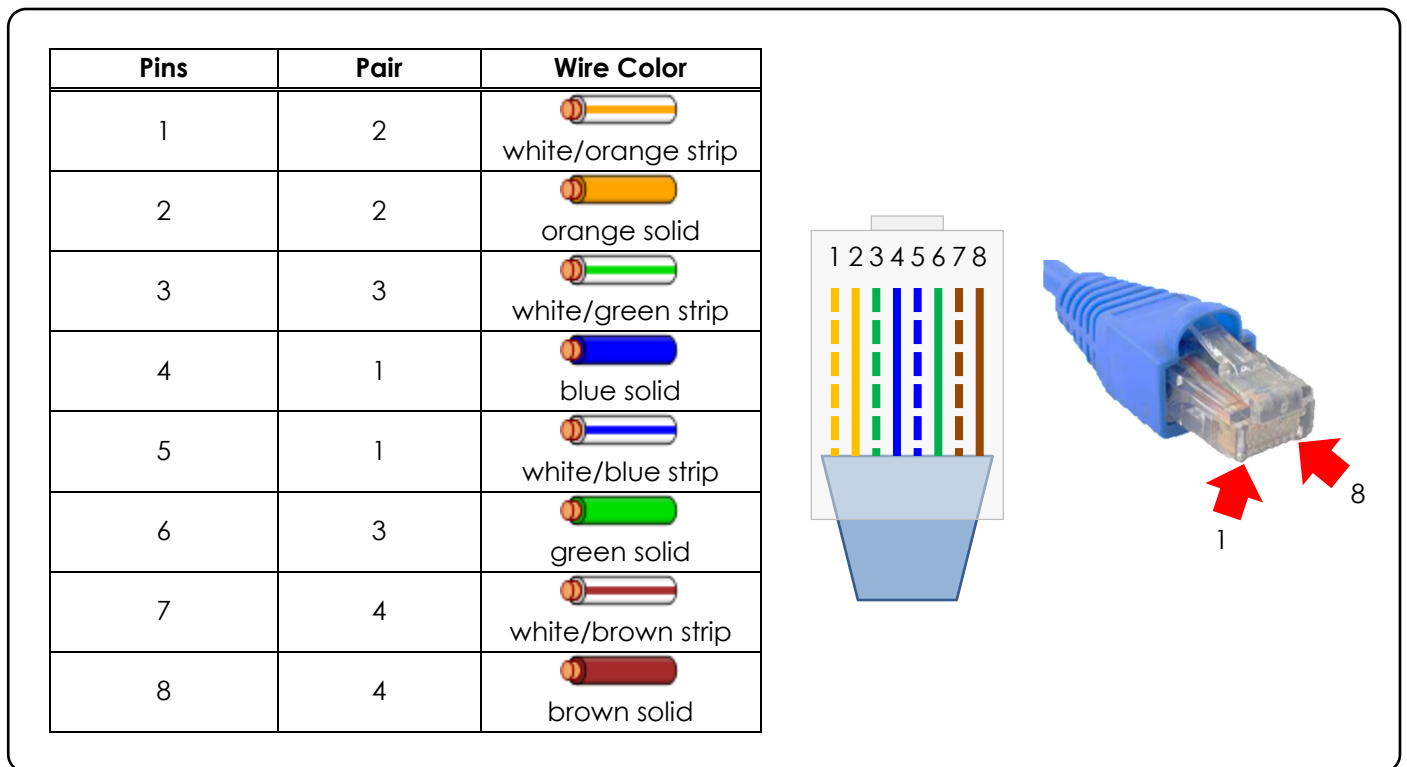

Figure 8-1 Ethernet RJ45 Connector Pinout
3. T568B standard is recommended for RJ45 connector pin assignment. See Figure 8-1 for the color code for Ethernet connection.